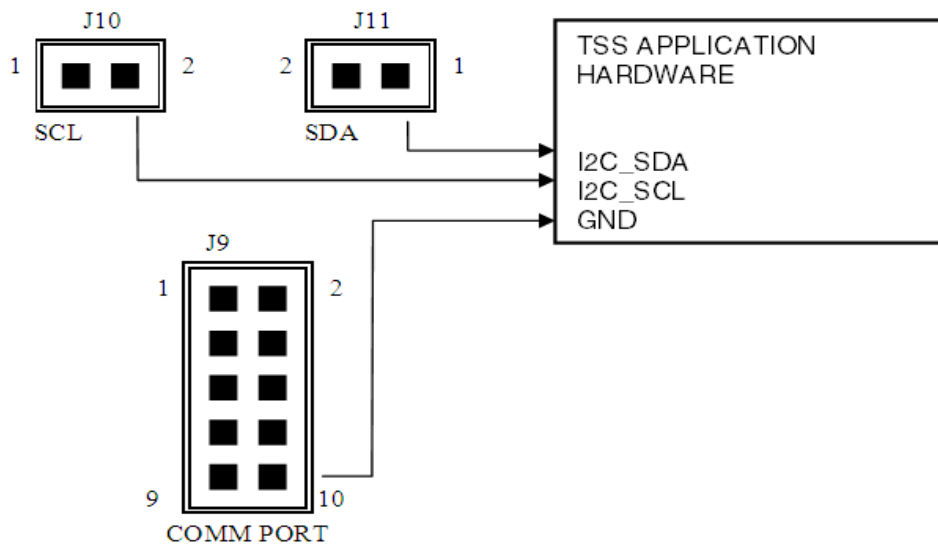

Figure 2-13. Connections Between the TSS Application Hardware and the TSSEVB Board
- Connect the I2C lines from your application to connector J10 and J11 as shown in Figure 2-13. You must also have a ground (GND) connection between the TSS application hardware and the TSSEVB. The TSSEVB Communication module provides the pull-up resistors for the I2C communication.